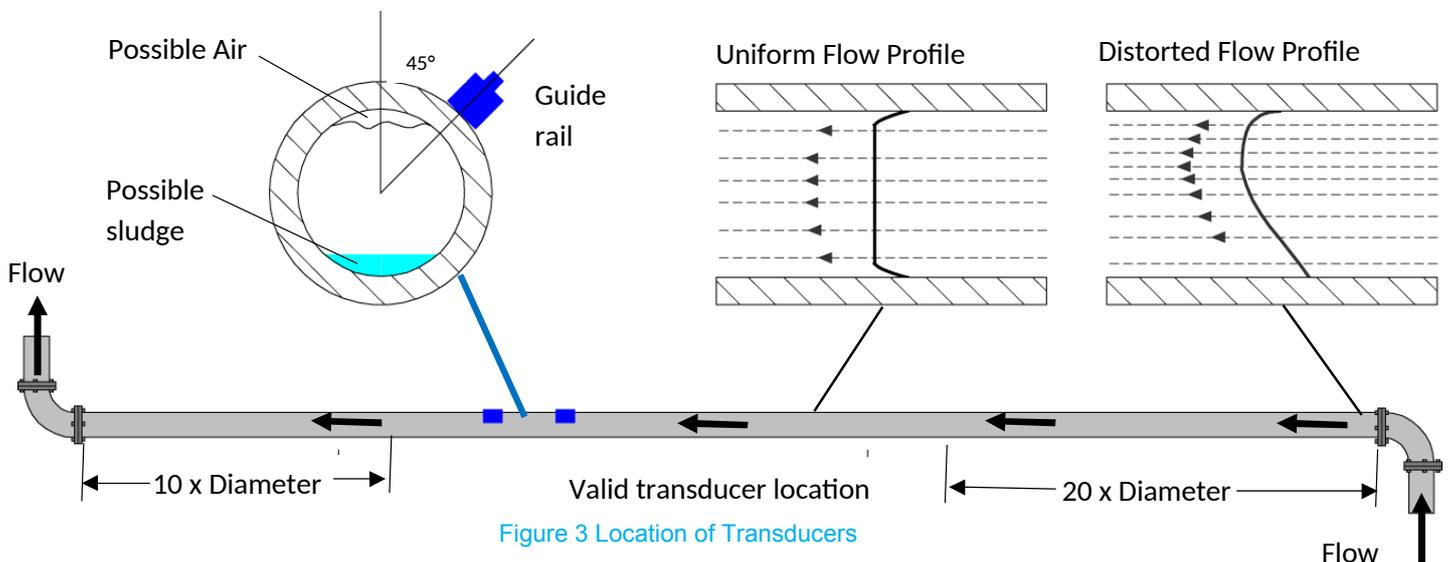

Figure 3 Location of Transducers
To obtain the most accurate results the condition of both the liquid and the pipe must be suitable to allow ultrasound transmission along the predetermined path. It is important that liquid flows uniformly within the length of pipe being monitored, and that the flow profile is not distorted by any upstream or downstream obstructions. This is best achieved by ensuring there is a straight length of pipe upstream of the transducers of at least 20 times the pipe diameter, and 10 times the pipe diameter on the downstream side, as shown in Figure 3. Flow Measurements can be made on shorter lengths of straight pipe, down to 10 diameters upstream and 5 diameters downstream, but when the transducers are mounted this close to any obstruction the resulting errors can be unpredictable.
1. Before attaching the transducers first ensure that the proposed location satisfies the distance requirements shown in Figure 3 otherwise the resulting accuracy of the flow readings may be affected.